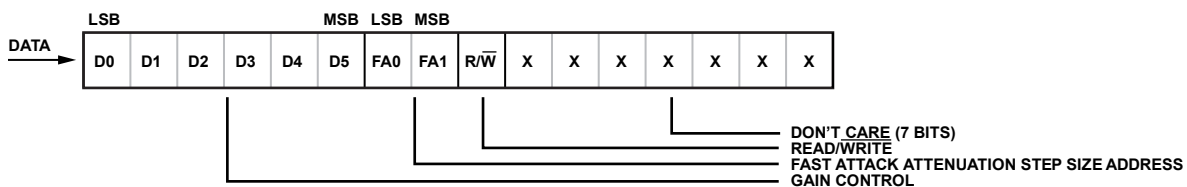

Figure 53. 16-Bit SPI Register
The SPI uses three pins (SDIO, SCLK, and \overline{CSA} or \overline{CSB}). The SPI data register consists of two bytes: six gain control bits (D0 to D5), two attenuation step size address bits (FA0 and FA1), one read/write bit (R/W), and seven don't care bits (X), as shown in Figure 53.